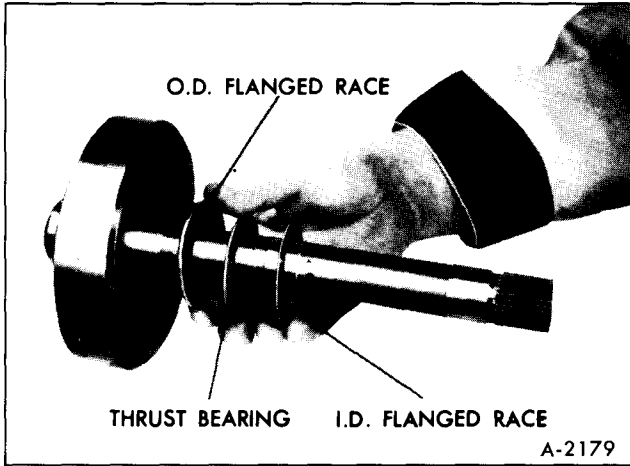

Figure 56—Thrust Bearing Installation
a. Install large diameter race first, with flange facing up, Figure 56.